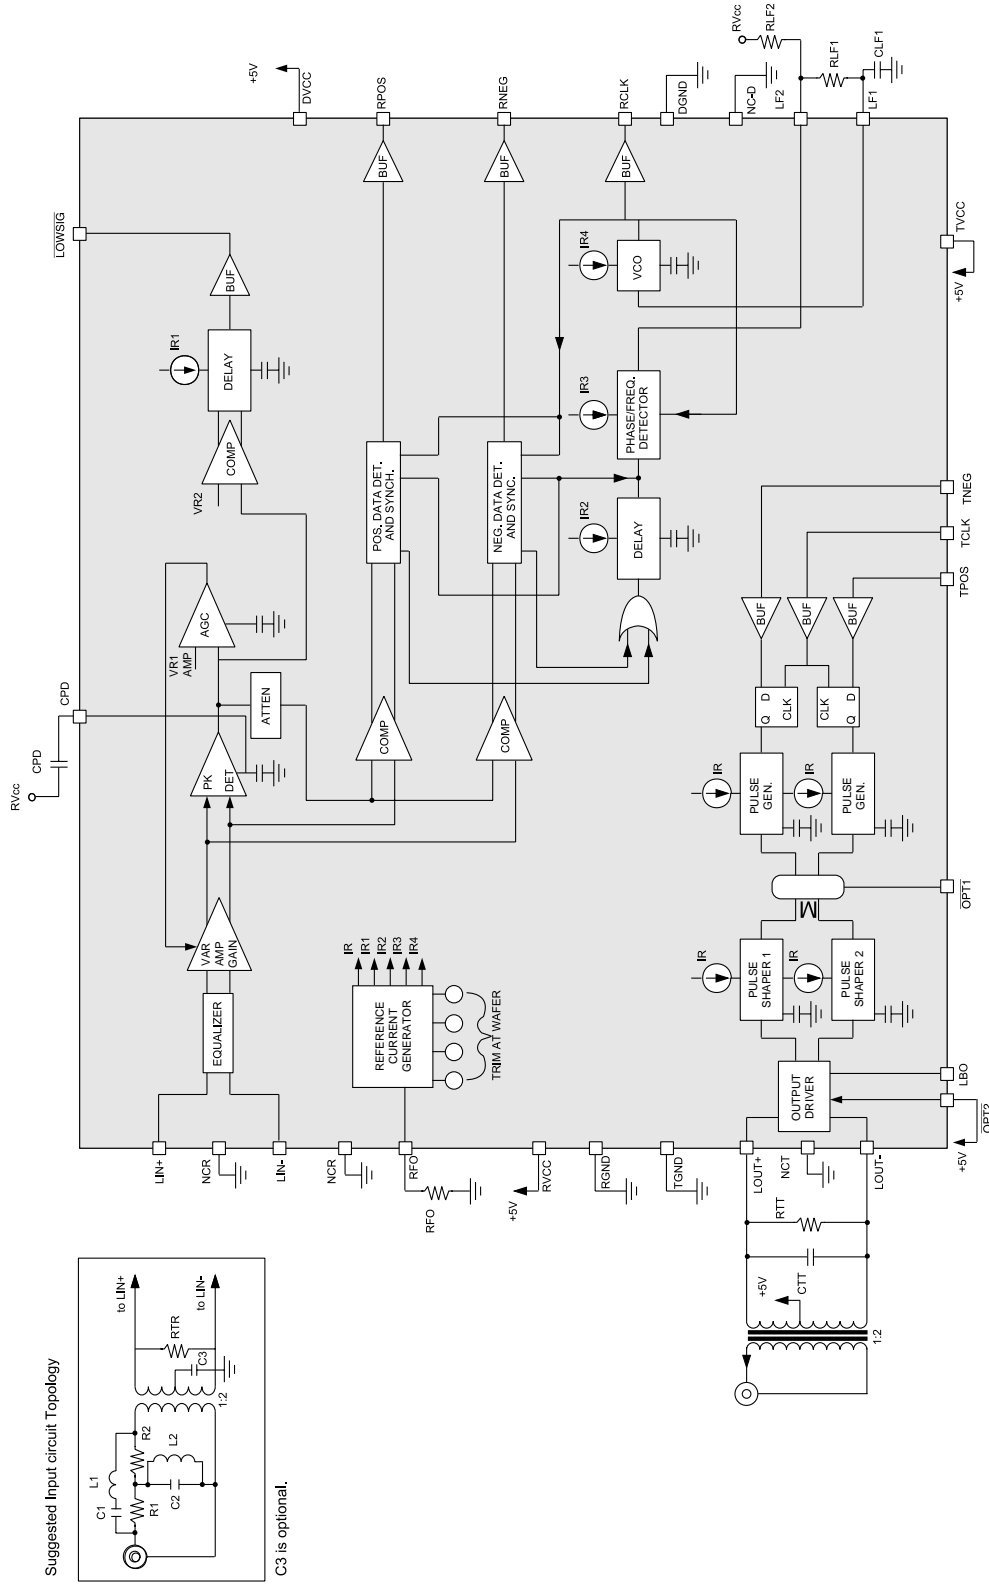

FIGURE 1: Functional Diagram
The AMI signal first enters a fixed equalizer, which is designed to overcome the intersymbol interference caused by long cable lengths and crosstalk. This fixed equalizer is optimized for DS3 application and its effect should be compensated by an external filter circuit similar to Figure 1, for all square shaped signals such as DS3-high or 34 Mbit/s E3. For all new designs, the addition of the filter for DS3 and STS-1 as well as E3 rate allows the circuit to work with sharp pulses such as DS3-high. The signal is then input to a variable gain differential amplifier whose output is maintained at a constant voltage level regardless of the input voltage level. The gain of this amplifier is adjusted by detecting the peak of the signal and comparing it to a fixed reference.
- The input signal is transformer coupled as shown in Figure 1.